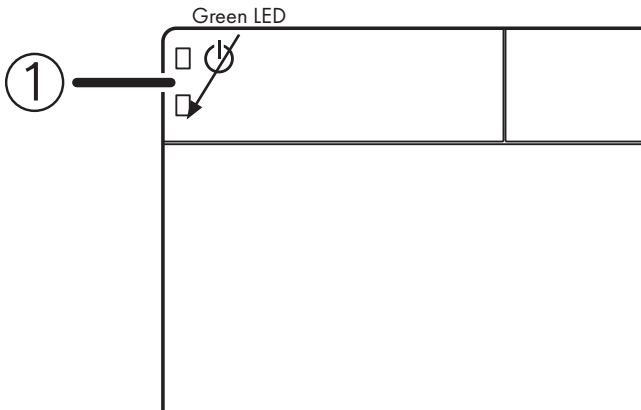

Figure 3: ON button with indicator LED
- 2. Press and hold the ON/OFF switch (1) for 3 seconds. Refer to Figure 3.
- 1. Press and hold the ON/OFF switch (1) for 3 seconds. Refer to Figure 3.